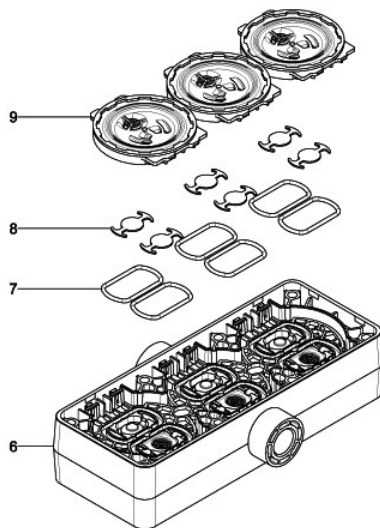

Figure 5: Installing the intermediate
7. Insert the six O-rings (7) and anchor valves (8) in the connecting plate (6) according to Figure 5.
8. Click the three intermediate plates (9) into the connecting plate (6).
9. Place the connecting plate (6) on the head plate (2).
11. Insert the eight head screws (1) in the head plate (2), but tighten them only slightly for now.
12. Tighten the four inside head screws (1) in a diagonal sequence by one rotation each.
13. Tighten the four outside head screws (1) in a diagonal sequence by one rotation each.
14. Repeat steps 12. and 13. until all the head screws (1) are tightened to 3.5 Nm. This procedure is important to ensure that the diaphragm is compressed equally, and the pump is leak-tight.